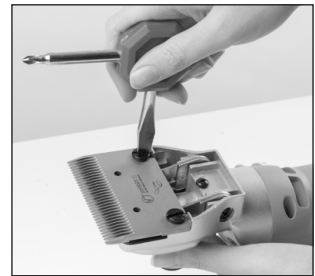

Fig. 3
4. Loosen the fixing screws (7) using the enclosed tool (fig. 3).